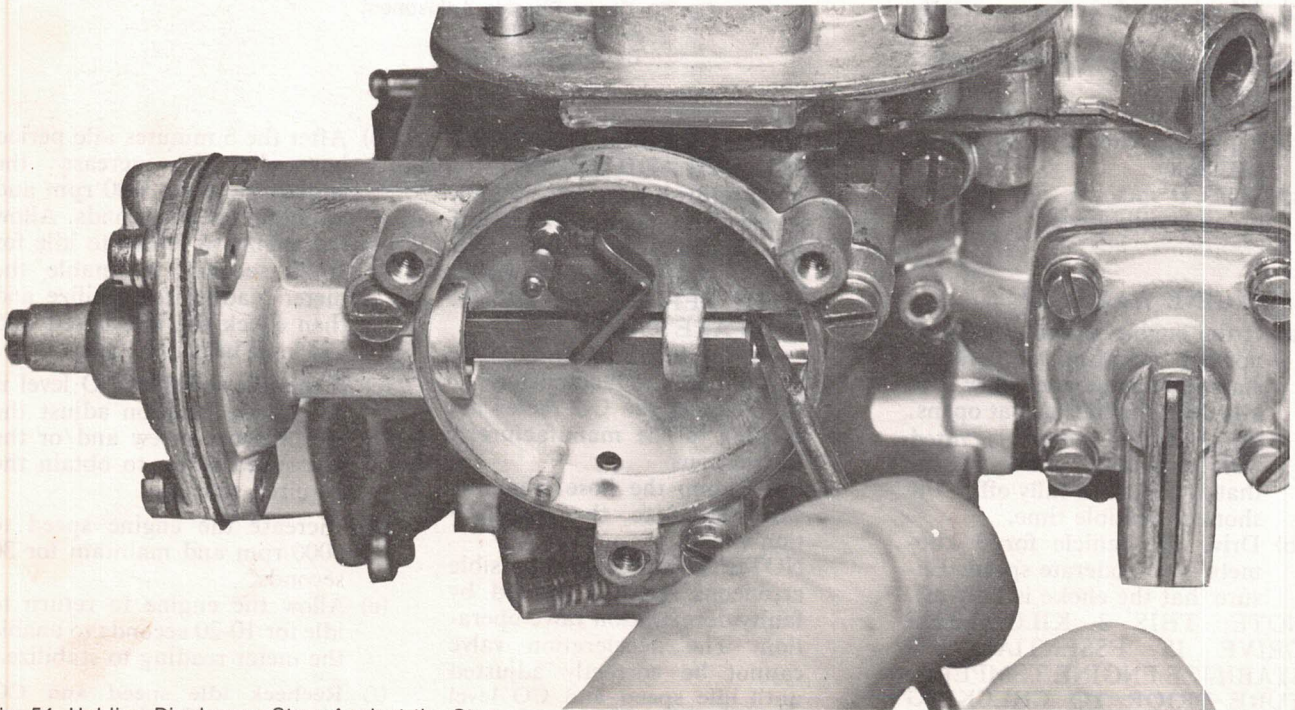

Fig. 54. Holding Diaphragm Stem Against the Stop
5. Using a screwdriver, hold the diaphragm stem back against its stop (Fig. 54).